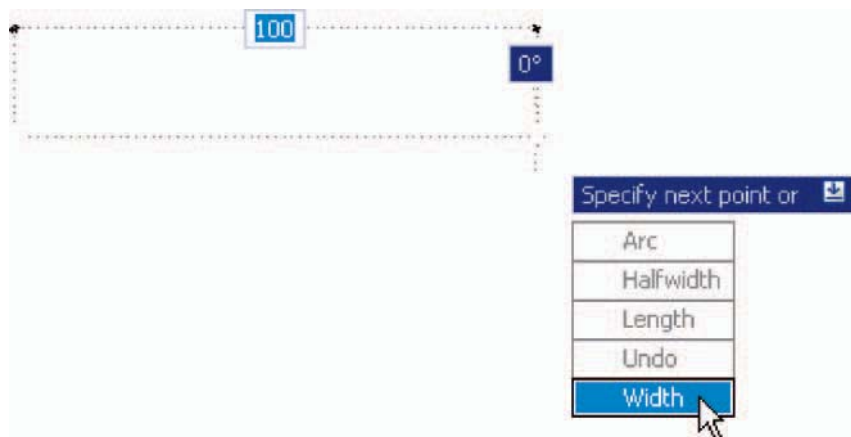

Fig. 3.27 Dynamic Input – first example – **Polyline** – *click* **Width** in the pop-up menu
3. Move the cursor and press the **down** key of the keyboard. A pop-up menu appears from which a prompt selection can be made. In the menu *click* **Width** (Fig. 3.27).